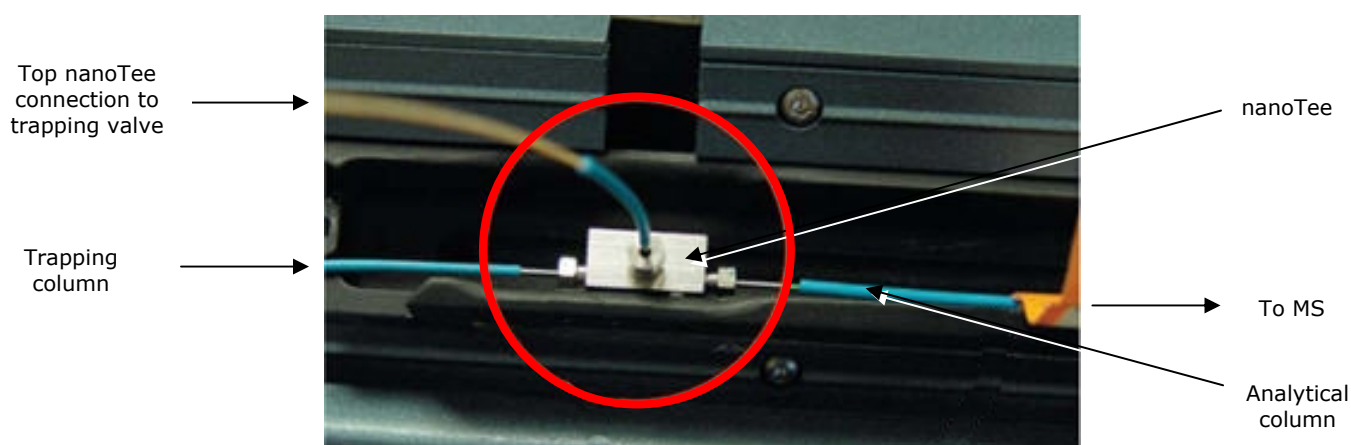

Figure 76 - nanoTee connections
- Attach the other end to port #1 of the trapping valve (Figure 76).